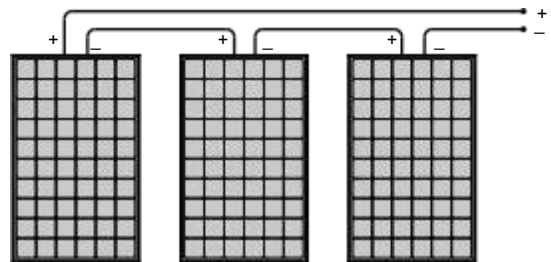

Fig. 9.6
- * Solar modules generate electrical energy when light strikes their front surface, producing a DC voltage that typically exceeds 30V. Modules must be connected in series (see Fig. 9.6), where the total voltage equals the sum of each module's voltage. They should not be connected in parallel, as this configuration increases current instead of voltage and is not compatible with the system's requirements.